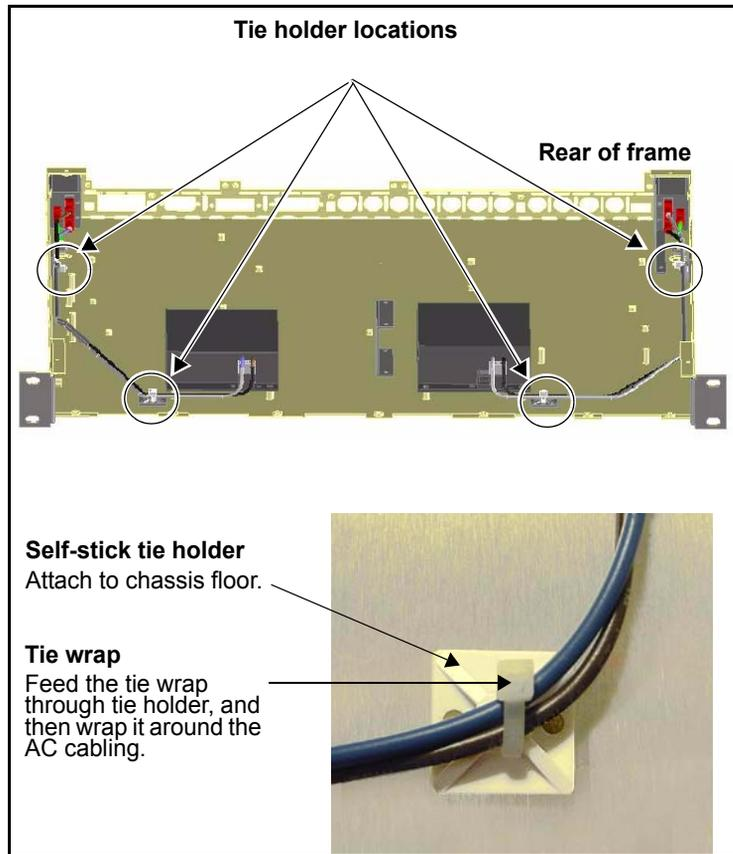

Figure C-49. Attaching Tie Wraps to AC Cabling
5. Secure the AC cabling to the chassis. (See Figure C-49 on page 366.)